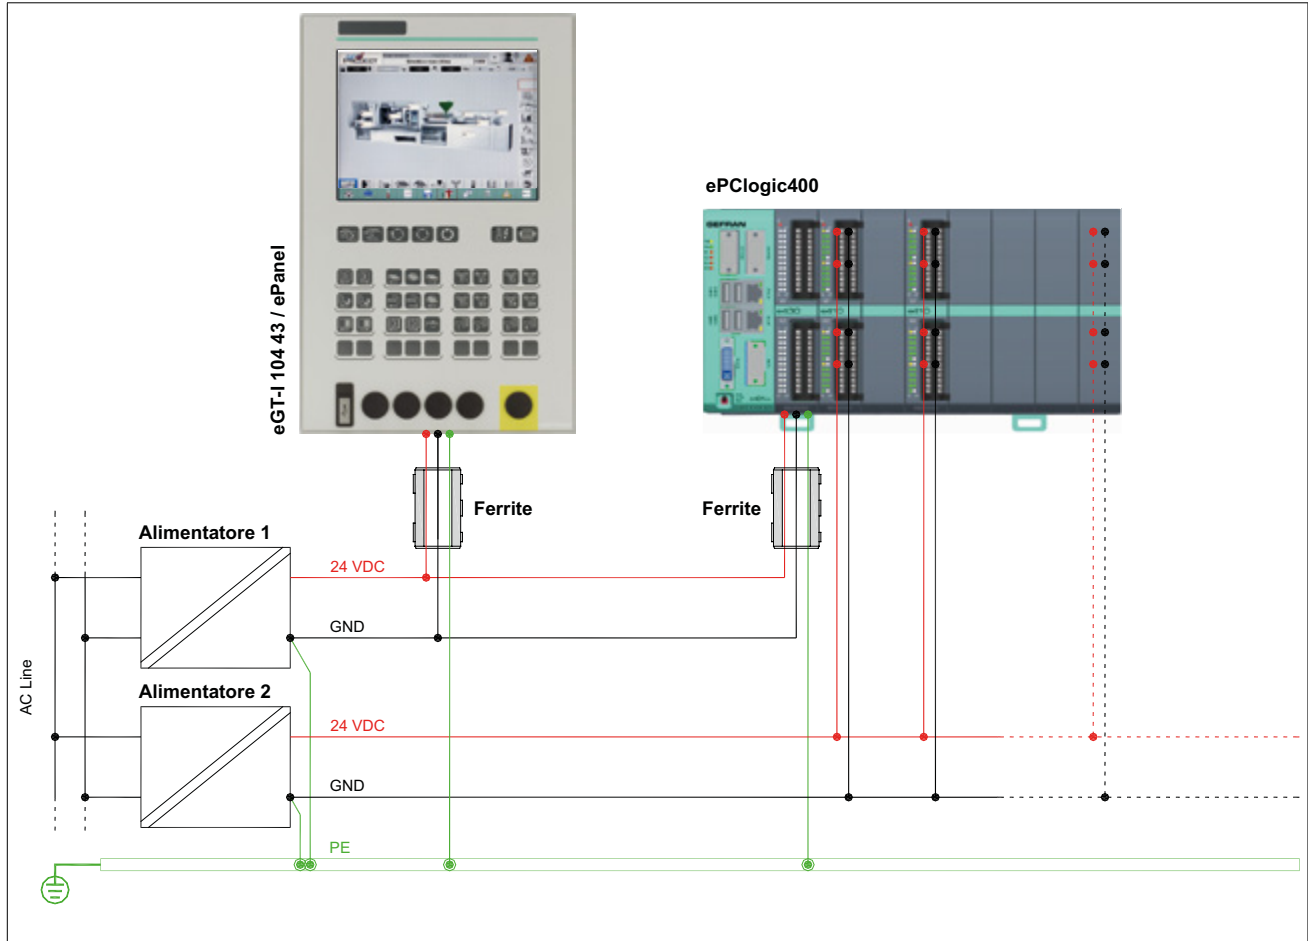

Figure 7 : Dual power supply
- Ground the power supply (GND) with a wire that is straight and as short as possible (PE).
- Ground the ePanel / eGT-I ground terminal and the ePCLogic400 (GND) with a wire that is straight and as short as possible (PE).
The system can be powered with TWO (2) power supplies as shown in figure 7.